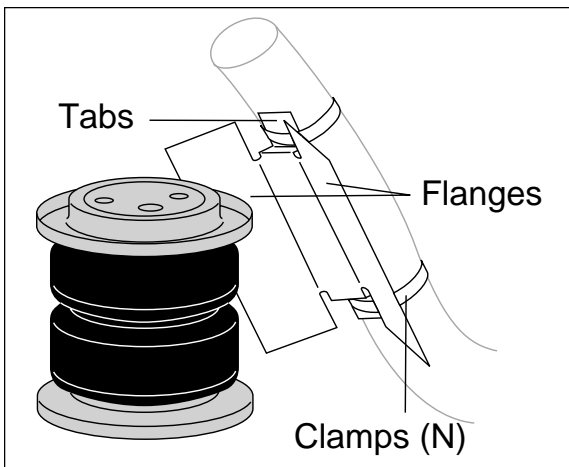

Figure 6
1. Bend tabs to provide a  $\frac{1}{2}$ " dead air space between exhaust pipe and heat shield (Figure 6).
2. Attach the heat shield (M) to the exhaust pipe using the provided clamps (N). Bend the heat shield for maximum clearance to the air spring (Figure 6).